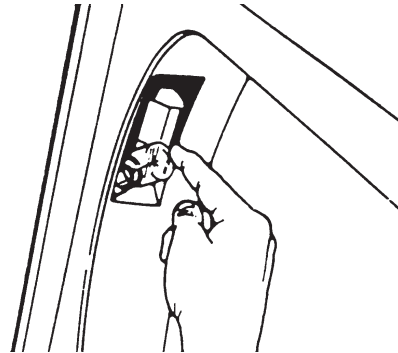

Fig. 4-14
3. Tip the light socket forward and remove the bulb. (Fig. 4-14)